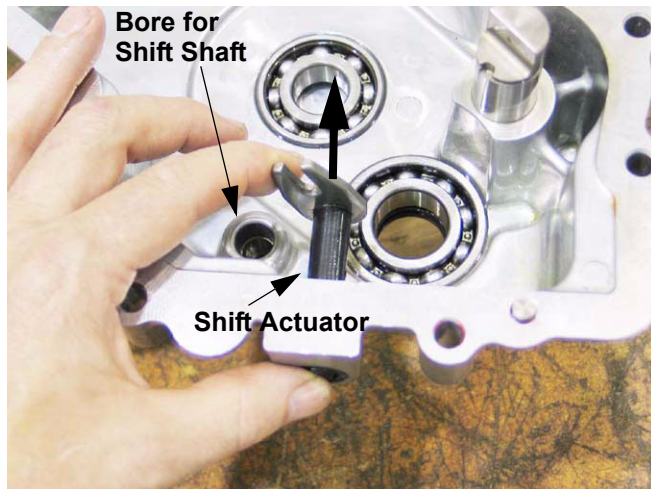

Figure 12.11
12.11. Push the shift actuator into the case, and remove it. See Figure 12.11.